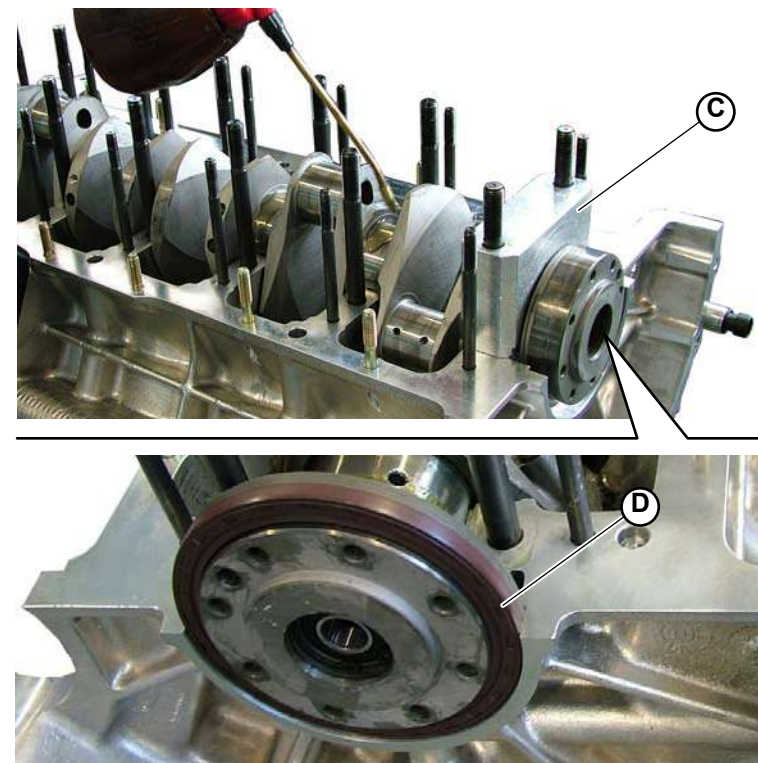

Fig.3
7. Assemble the mounting supports on the crankshaft (**C-Fig.3**).
After positioning the shaft, lubricate with (**Fig.3**).
8. Install the engine oil seal by means of (**000200**) tool (**D-Fig.3**).